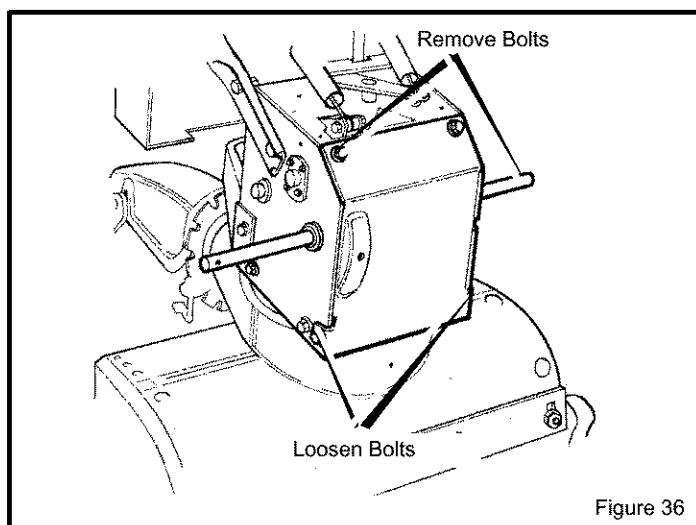

Figure 36
1. Remove bottom panels (Figure 36).